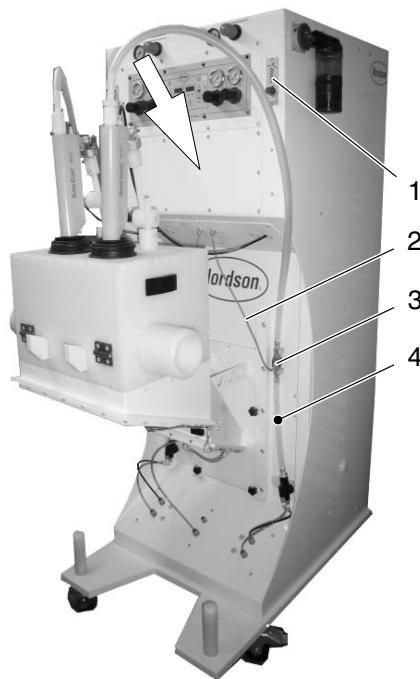

Fig. 7-2
2. Remove the cover plate (arrow, Fig. 7-2).
3. Release the plug connections on the old evaluator (1, Fig. 7-2 ).
2. Remove the old sensor cable (2, Fig. 7-2):
- a. Remove the cover plate (arrow, Fig. 7-2).
3. Remove the old sensor (3, Fig. 7-2) from the powder hose (4, Fig. 7-2).